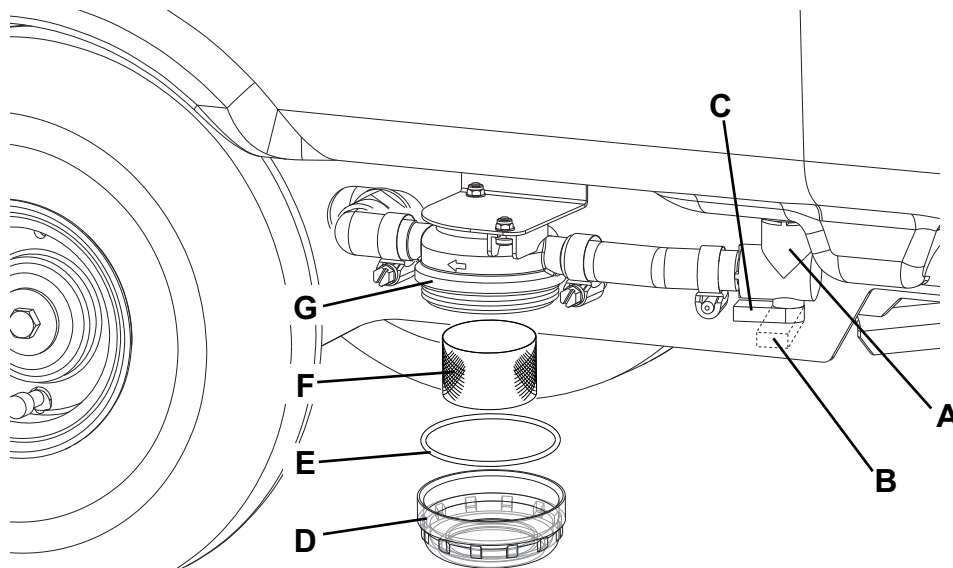

Figure 8
2. Turn the ignition key (80) to "0".
3. Close the solution tap (A, Fig. 8) under the machine, behind the left rear wheel.